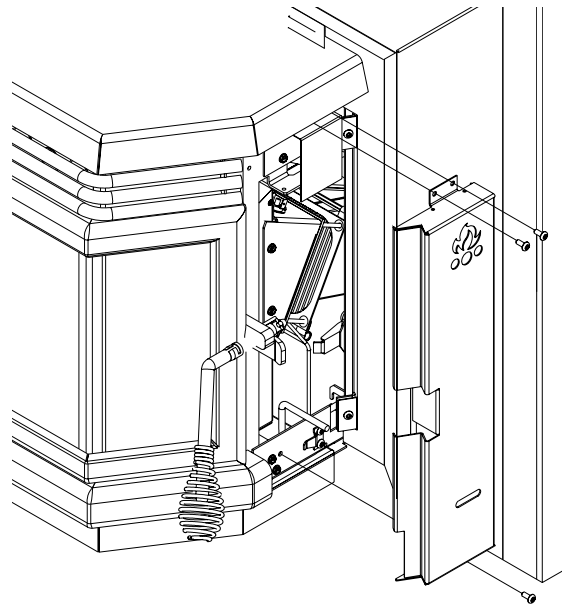

Figure 35
- 9- Install the decorative side panels on the unit (Figure 35)